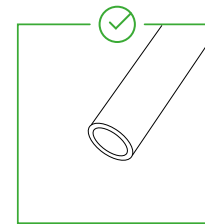

Fig. 36: Cut surface
Use the included tube cutter (part number: 9909 2 0266). This allows you to cut all hose ends straight and smooth to prevent potential leaks. (Fig. 36).
- Check air lines for damage before mounting on the fitting (scratches, tears, and uneven cut edges). (Fig. 36)